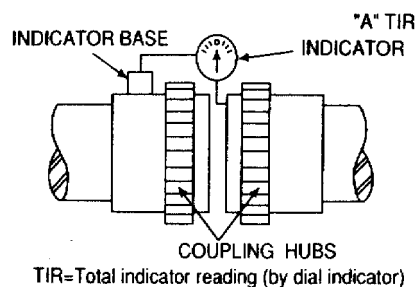

Fig. 4
3.6.5 Angular misalignment is the amount by which the centre lines of the driver and driven shaft are skewed. It can be measured using a dial indicator set up as shown in fig 4. The couplings are rotated together through 360 degrees so that the indicator does not measure runout of the coupling hub face. The shaft should be forced against either the in or out extreme of their end float while being rotated.